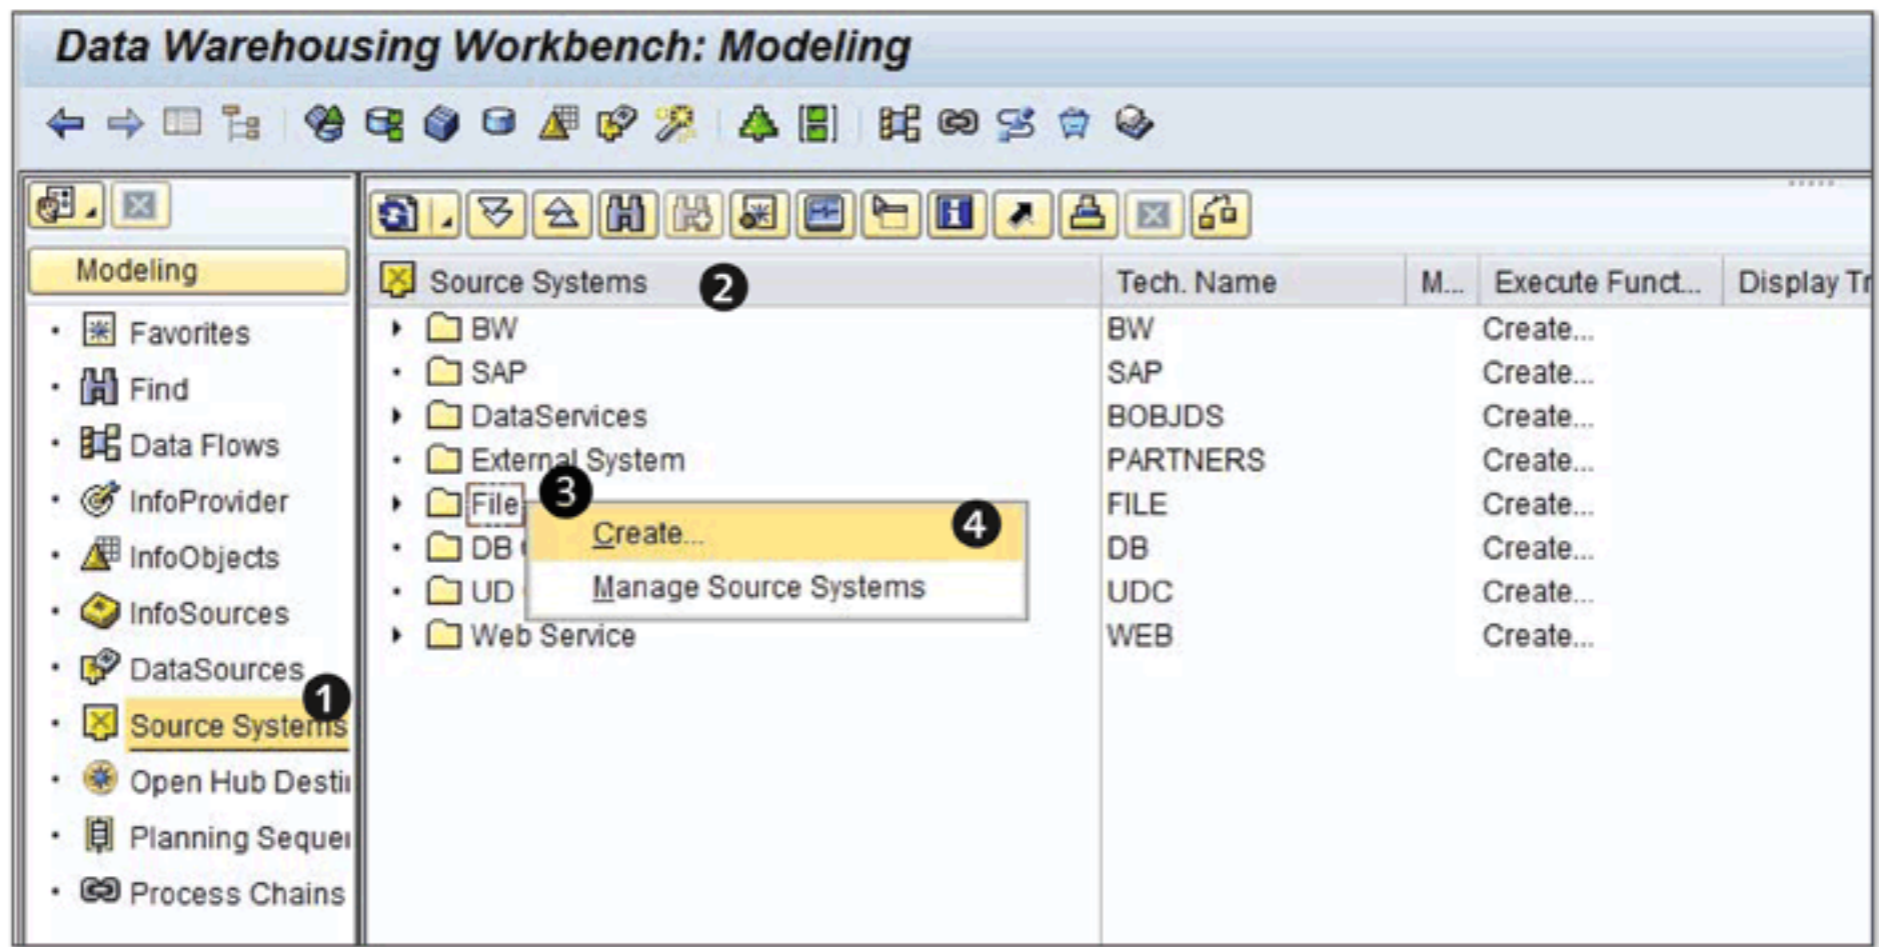

Figure 7.3 Creating a Flat File Source System in the DWW
In this section, we explain how to create a flat file source system, which is required to extract data from CSV and ASCII files. Source systems are created in the DWW, which is started using Transaction RSA1. Select the source system under MODELING, as shown in ❶ of Figure 7.3. A list of the different source system types supported by SAP NetWeaver BW is shown (❷).